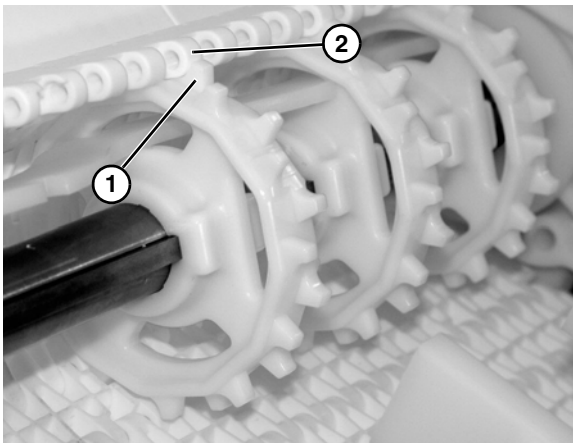

Figure 27
6. Wrap the belt around the drive end of the conveyor, making sure the sprocket teeth have engaged the belt, with concave teeth (**Figure 27, item 1**) mating with rounded section (**Figure 27, item 2**) of belt.